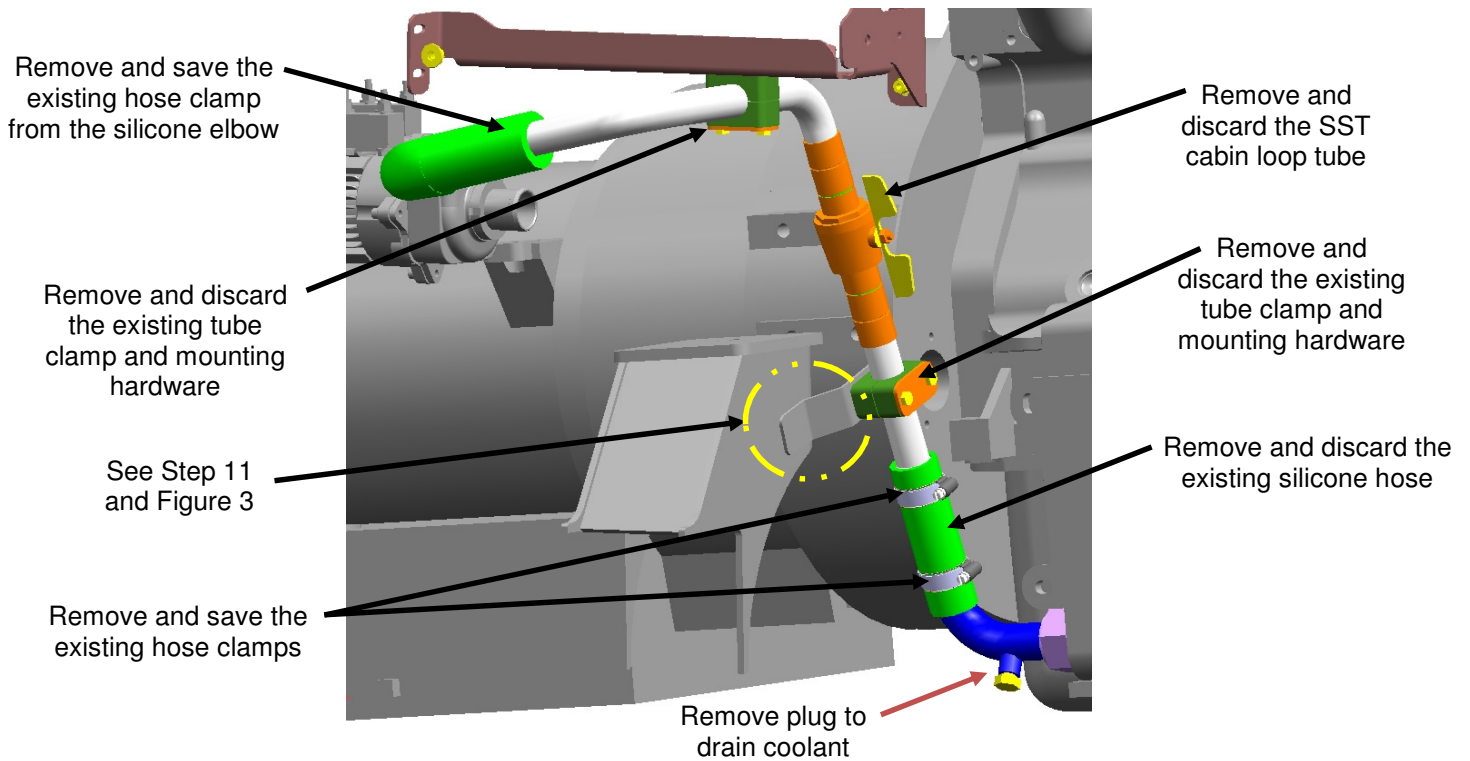

Figure 2: Cabin Heat Coolant Tube Removal
4. Place a suitable container under the heat exchanger cabin loop drain plug. Remove and save the drain plug and drain cabin heat coolant circuit. See Figure 2.
6. Remove and discard the existing tube clamp and mounting hardware supporting the heat exchanger cabin loop SST tube to the de-gas frame as shown in Figure 2.
7. Remove and discard the existing tube clamp and mounting hardware supporting the heat exchanger cabin loop SST tube to the clamp mounting bracket (bracket may vary in appearance) as shown in Figure 2 and 3.
8. Remove and save the existing hose clamp from the silicone elbow on the booster pump line to the SST cabin loop tube, see Figure 2.
9. Remove and save the existing hose clamps from the silicone hose connecting the heat exchanger 90° SST elbow to the SST tube to the booster pump, see Figure 2.
10. Remove and discard the existing silicone hose and SST cabin loop tube, see Figure 2.